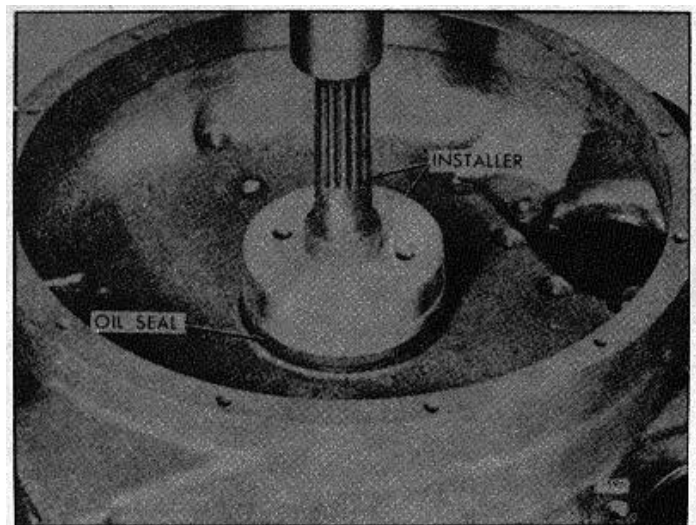

Fig. 6 - Installing Oil Seal in Flywheel Housing
4. On In-Line engines, use installer J 9479 to press the oil seal into the flywheel housing until the seal is flush with the outside face of the housing (Fig. 6). If the flywheel housing was not removed from the engine, place oil seal expander J 9769 (standard size seal) or J 21278 (oversize seal) against the end of the crankshaft. Then, with the lip of the seal pointed toward the engine, slide the seal over the expander and on the crankshaft. Next, thread the guide studs J 9479-2 into the crankshaft. Now drive the seal into the flywheel housing with installer J 9479-1 until it is flush with the face of the housing.